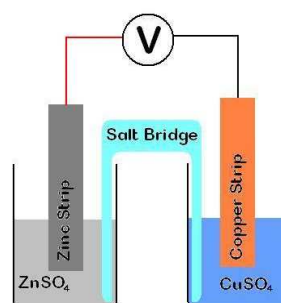

Fig. 3
1. Make a 1mol dm⁻³ solution of copper (II) sulphate and zinc sulphate.
2. Pour 50cm³ of each into 100cm³ beakers. Using a folded piece of filter paper soaked in saturated potassium nitrate for the salt bridge, and a voltmeter (as shown in *fig. 3*), measure the electrode potential between the two solutions. Measure the temperature of the solutions at the time of the reaction.
4. Keeping the copper (II) sulphate at 1mol dm⁻³, change the concentration of the zinc sulphate